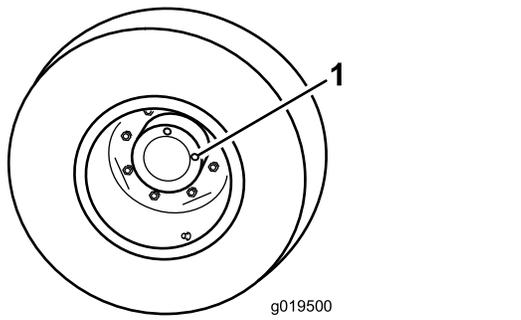

Figure 17
1. With machine on level surface, position the wheel so 1 check plug is at the 12 o'clock position and the other is at 3 o'clock position (Figure 17).
1. Check/drain plug (2)
2. Remove the plug at the 3 o'clock position (**Figure 17**).